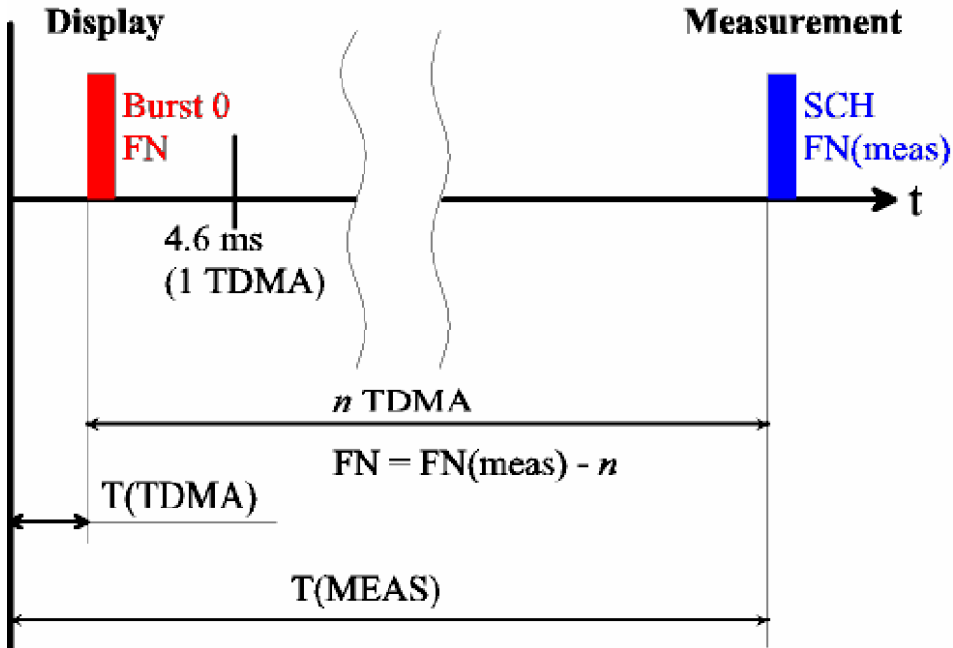

Fig. 5-26 Display of the K7 Transmitter Scan View time measurements
- FN** TDMA frame number of the correlated burst in the range 0 to FN\_MAX where  $FN\_MAX = (26 \times 51 \times 2048) - 1 = 2715647$  (one hyperframe length) as specified in GSM 05.02. The FN is obtained from the measured Synchronization Channel (SCH). The FN column shows the FN at T(TDMA) which is calculated from the FN at the SCH time T(SCH) and the time offset between T(SCH) and T(TDMA); see Fig. 5-26 below.